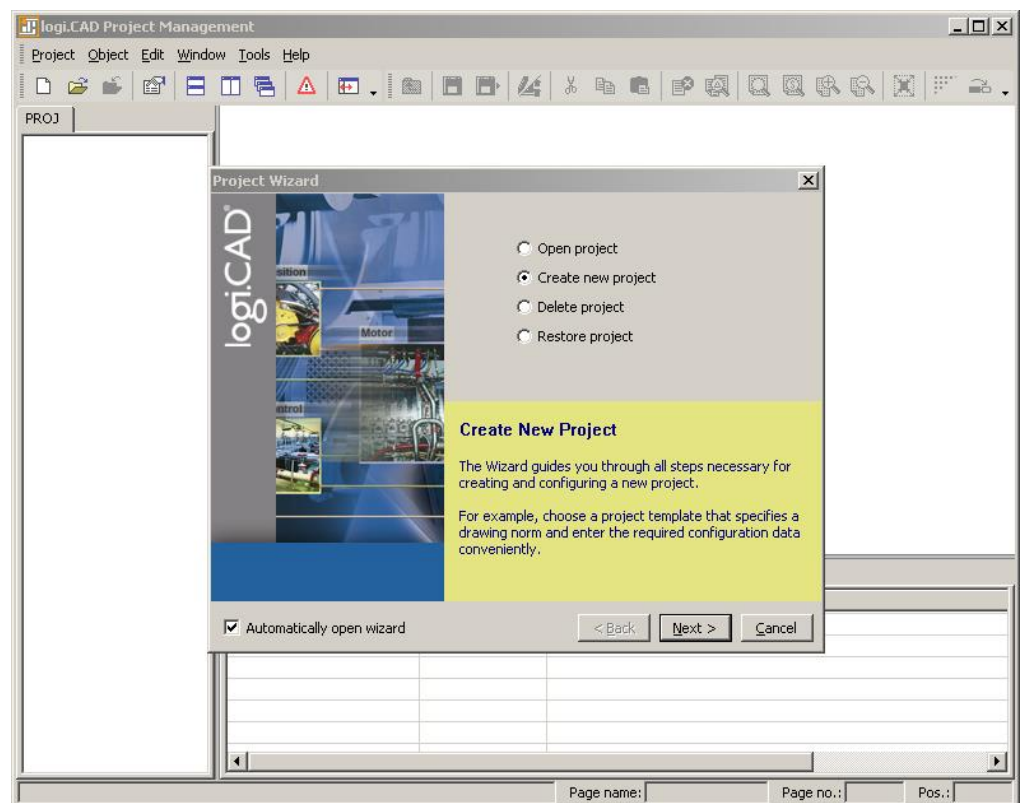

Figure 22: logiCAD project wizard
2. The project wizard starts automatically as shown in Figure 22.